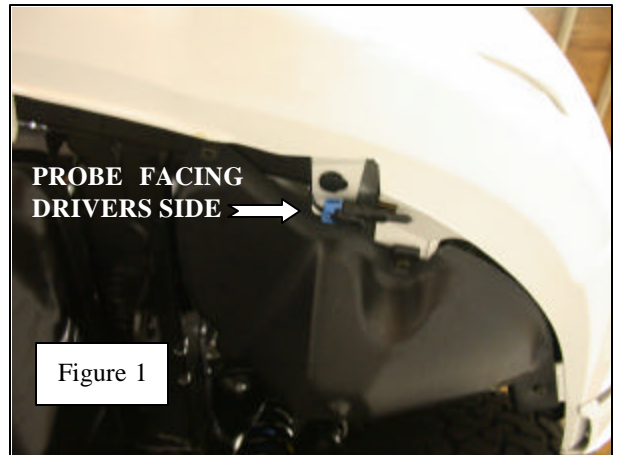

Figure 1
- Attach probe behind bumper by sliding s-clip over bumper support as shown. **(Figure 1)**